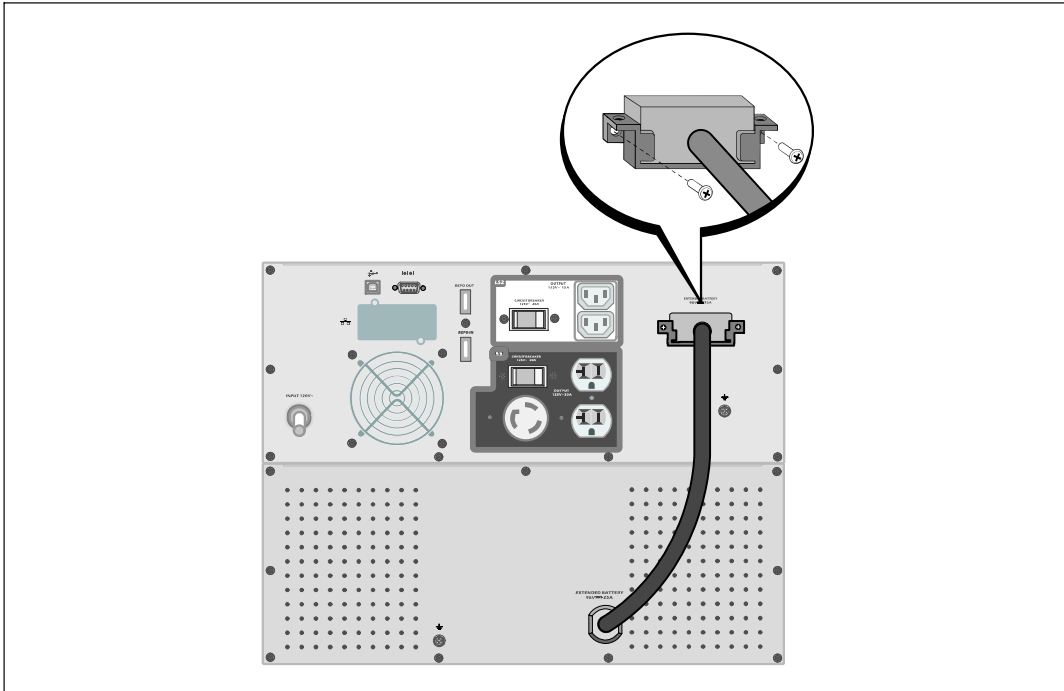

Figure 17. EBM Installation
- 3 Plug the EBM cable into the UPS battery connector (see Figure 17).